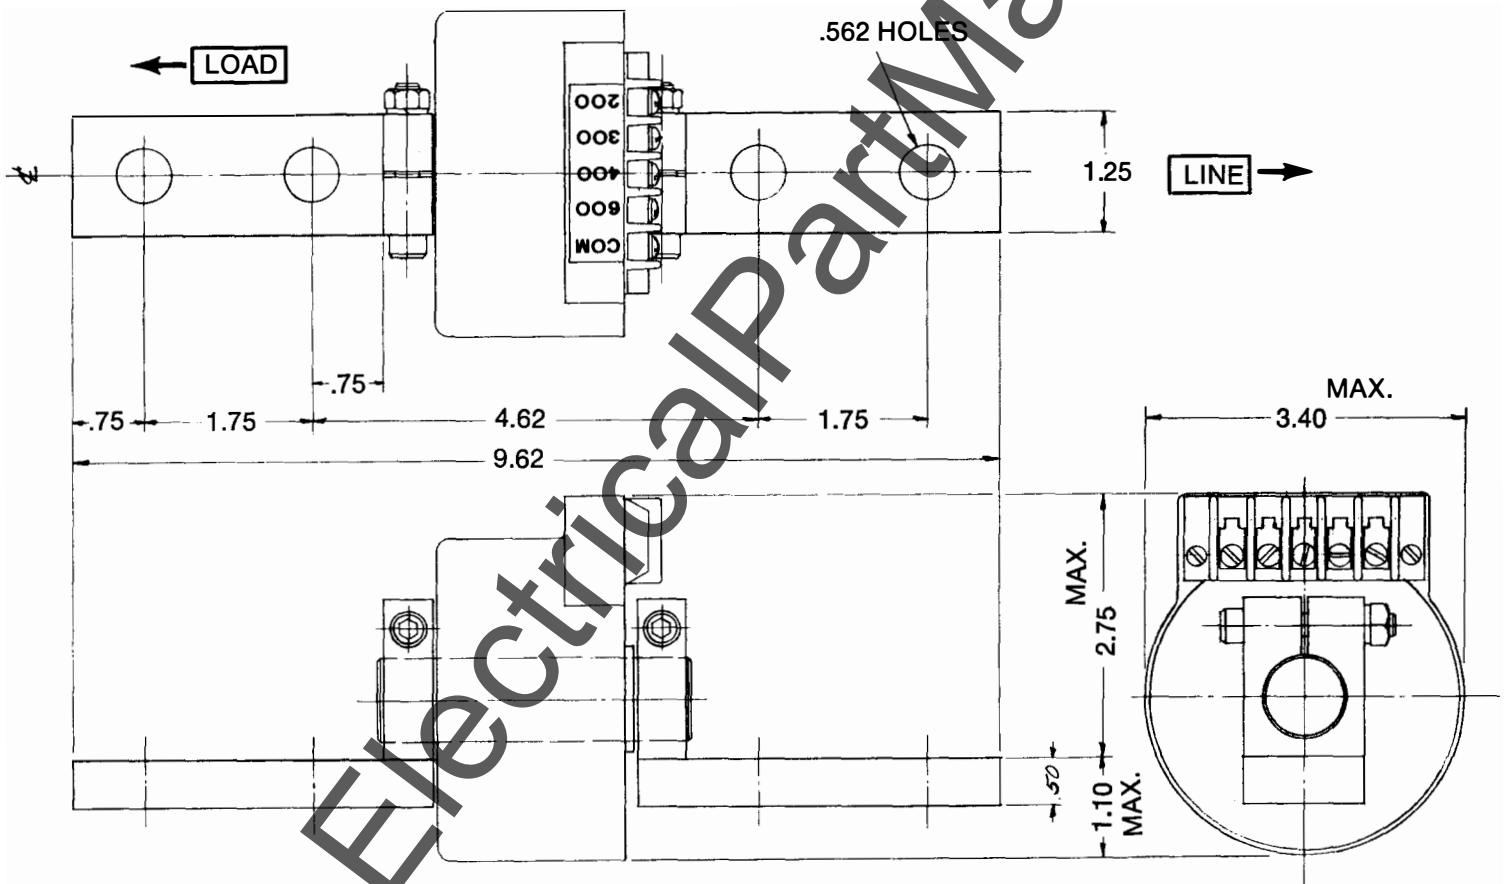

Fig. 23 — Outline of SST Neutral Sensors:
1. Mount the neutral sensor (CT) in the outgoing neutral lead, normally in the equipment's bus or cable compartment. See Fig. 23 for the sensor's bar drilling plan. Check to insure that the neutral and phase sensors match, i.e., have the same ampere range.